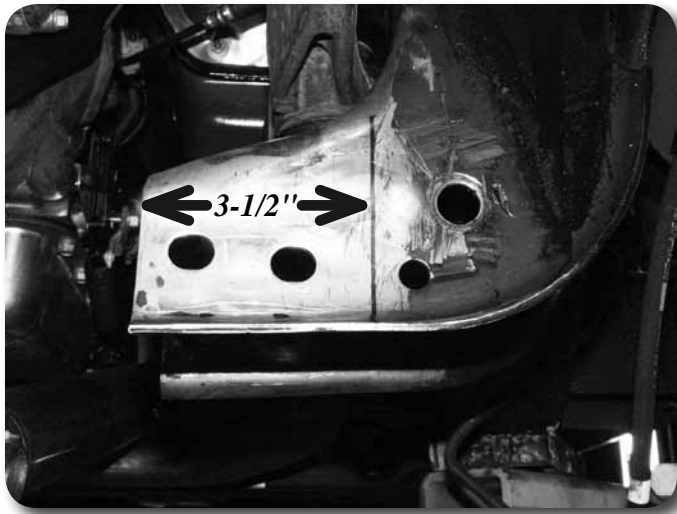

Figure 14
24. Measure from the inside of the driver's side control arm pocket out 3-1/2" and mark. Repeat this measurement on the opposite side of the pocket. Make vertical cut lines at the 3-1/2" mark up both front and back faces of the pocket **Figure 14**.